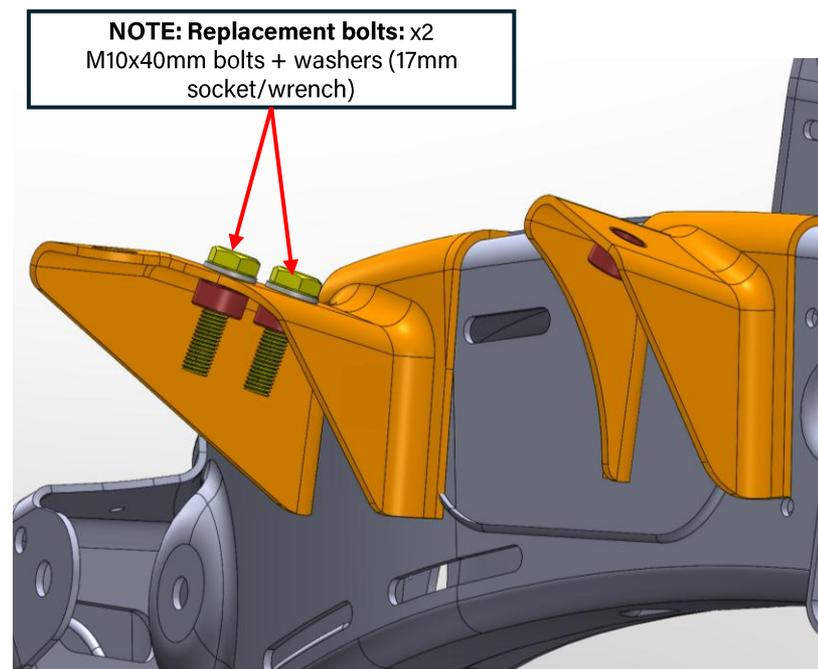

Figure 5: Motor mount old/new bolts with CAD visual showing bolt swap
5. **Loosely** install the provided driver-side motor mount bracket. This bracket has a clearance bend for the driveshaft. See Figure 5 below for clarification. **Install below the motor mount using the x2 provided M10 locknuts and x2 washers. Do not install the skid plate yet!**